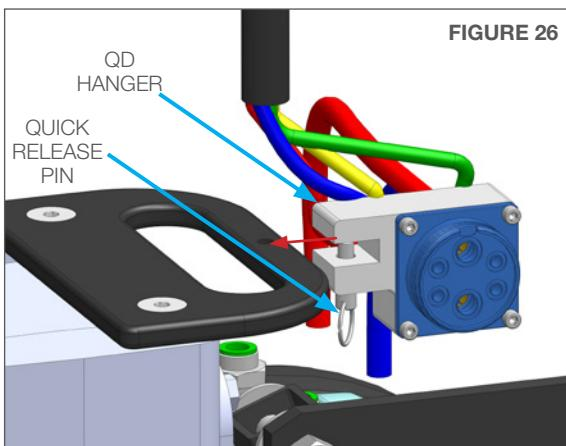

FIGURE 26
26. Connect the QD Hanger to the Gearbox handle by pulling out the quick release pin on the QD Hanger and sliding the pin into the center hole on the handle. (**Figure 26**)